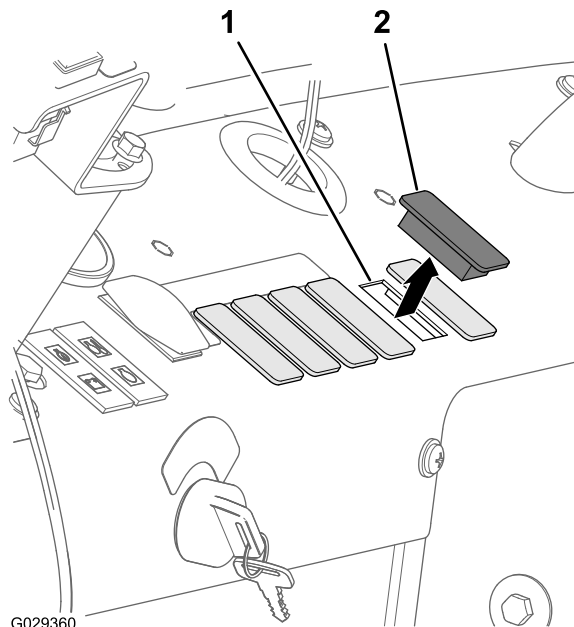
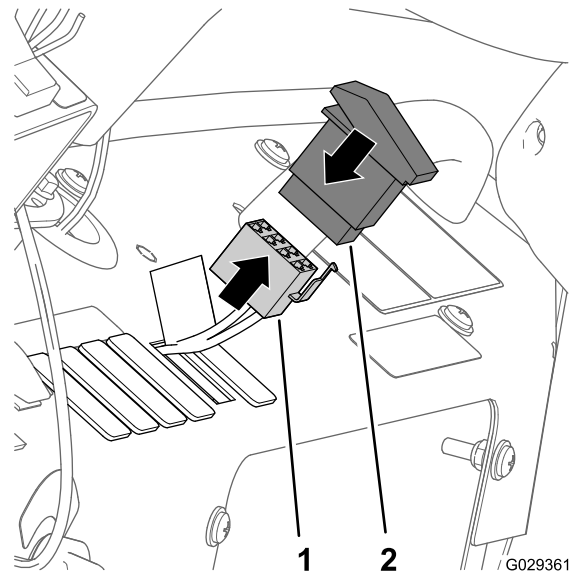

Figure 27
Figure 28
1. Remove the 5th plug to the right in the dash panel of the machine (Figure 27).
2. Align the 8-socket connector through the opening in the dash panel and connect the connector (Figure 28) to the pins at the back of the 2-position rocker switch (COMPRESSOR ON/OFF switch).
3. Assemble the switch into the dash panel and press in the switch until it snaps securely into the opening (Figure 27 and Figure 28).